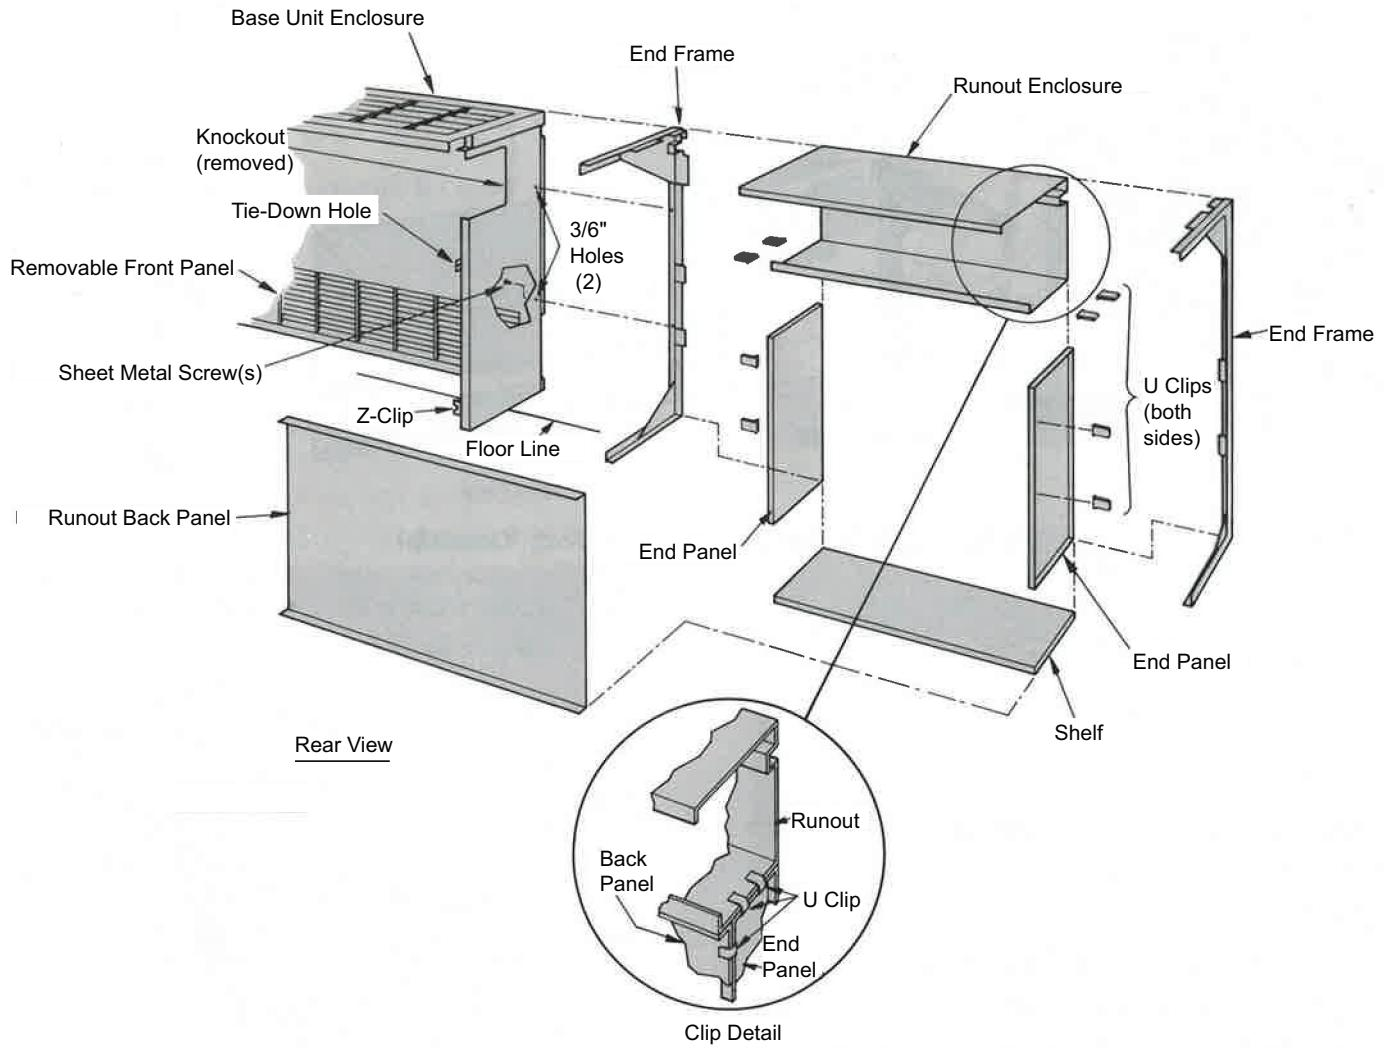

**Fig. 10 — Column-to-Column Enclosure Arrangement**
1. Drill two 3/16 in. holes for attaching runout. See Fig. 10.